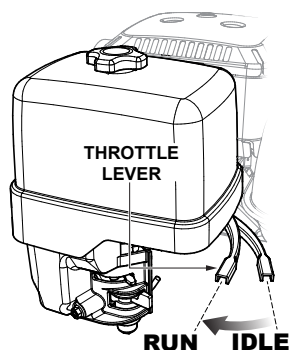

Figure 18. Throttle Lever (Run Position)
1. Once the engine has started, move the engine throttle lever quickly to the **run** position (Figure 18).